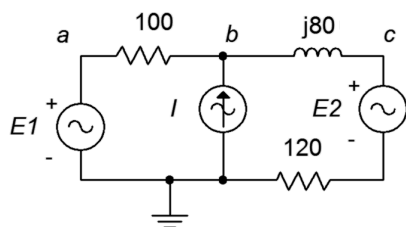

Figure 6.33
68. Given the circuit in Figure 6.33, determine v_{ad} . $E1 = 15\angle 0^\circ$, $E2 = 6\angle 0^\circ$, $I = 100\text{E-}3\angle 0^\circ$.